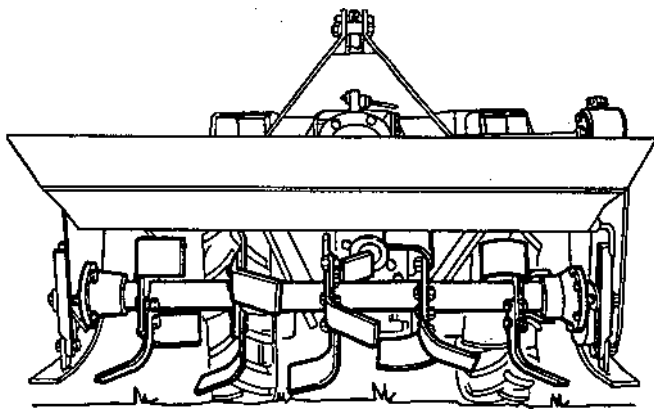

Fig. 12
- 4 Adjust the right hand hitch lift rod to make the tiller parallel with the ground (left to right) when the tiller is raised slightly off the ground. Shortening the lift rod will raise the right side of the tiller, lengthening the lift rod will lower the right side of the tiller Fig. 12.